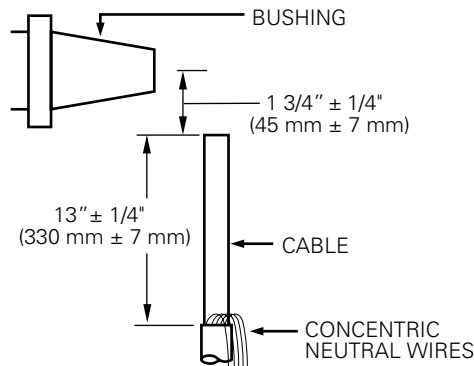

Figure 3. Line illustration of removing concentric neutral wires
- Measure 13" (330 mm) from end of cable. (Refer to Figure 3.)
- If unjacketed neutral cable, bind neutral wires using (3) wraps of tape at 14 3/4" dimension.